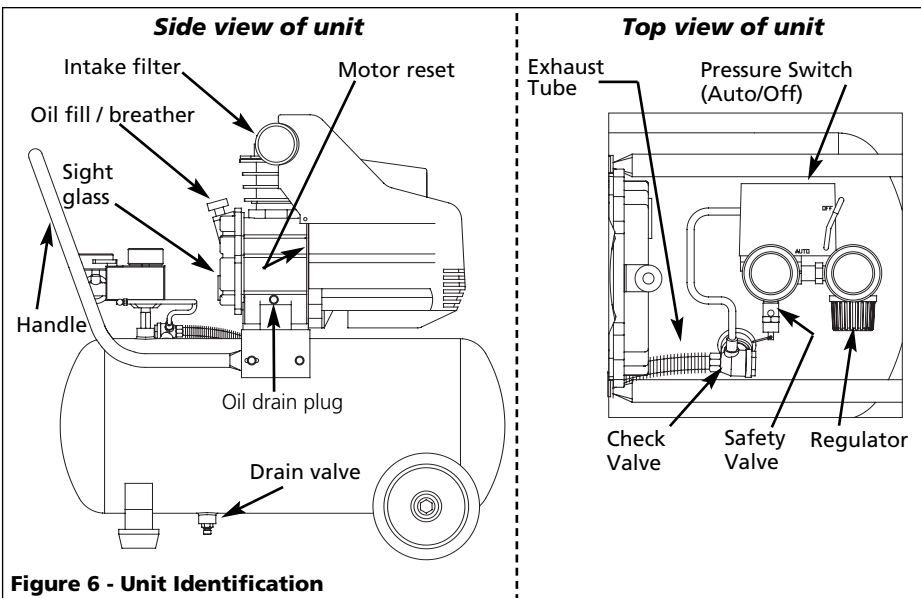

Figure 6 - Unit Identification
2. Wearing safety glasses, pull the ring on the safety valve (see Figures 6 and
1. Turn compressor off and release pressure from system. To release pressure from system, pull ring on ASME safety valve (see Figures 6 and 8). Deflect escaping air by shielding valve with one hand as you pull ring with other hand. Pull ring until tank is empty.